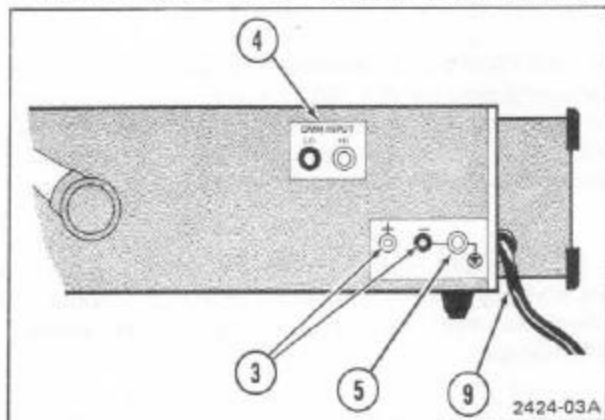
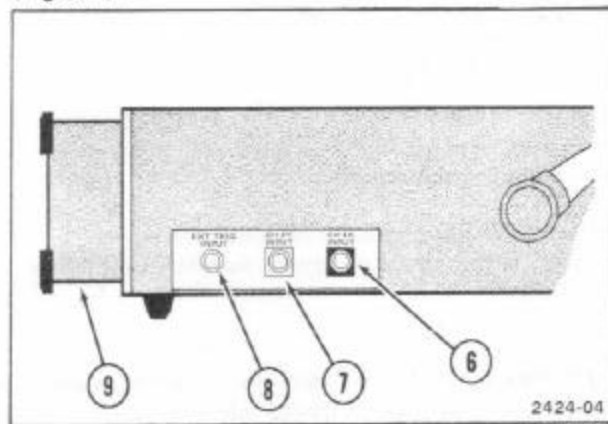

Figure 3. Right side view of instrument cabinet.
Figure 4. Left side view of instrument cabinet.
3. **+ and -** Inputs for applying external dc power source (+9 to +32 volts) (Figure 3).
4. **DMM INPUT**—Connector to apply external voltages or resistance to be measured to the digital multimeter (Figure 3).
5. **Ground Connector**—Connector for common ground connection from the power source or associated instruments or devices under test (Figure 3).
6. **CH1 (X) INPUT**—BNC connector to apply an external signal to the input of the CH1 vertical system, or X-axis deflection (horizontal) in the X-Y mode of operation (Figure 4). The maximum safe ac or dc voltage coupled to
7. **CH2 (Y) INPUT**—BNC connector to apply an external signal to the CH2 vertical system, or Y-axis (vertical) in the X-Y operation mode (Figure 4).
8. **EXT TRIG INPUT**—BNC connector to apply an external trigger input signal (Figure 4).
9. **Ac Line Cord**—Connects the instrument to an ac power source (Figure 3). The cord may be conveniently stored by wrapping it around the feet on the rear cover (Figure 4).